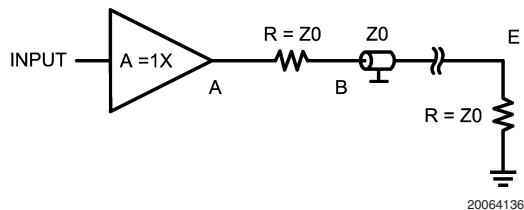
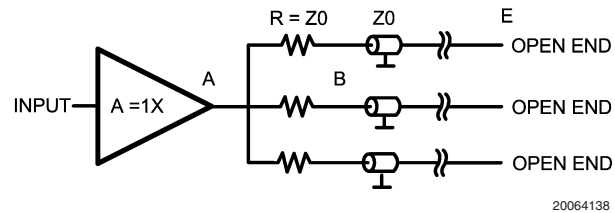
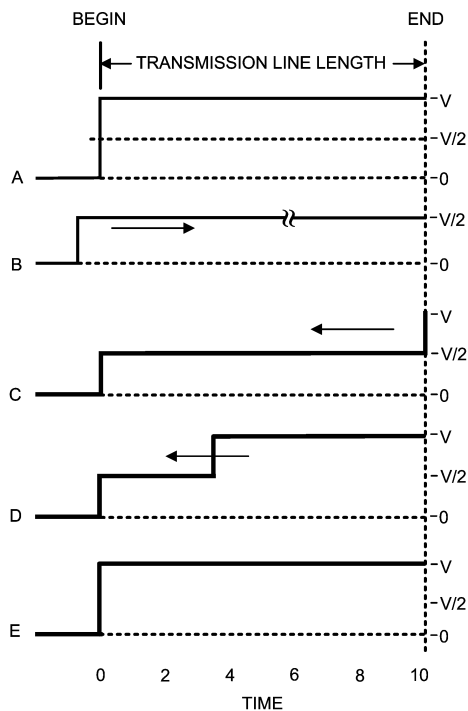

FIGURE 1.
FIGURE 3.
FIGURE 6.
- Use one buffer to drive one transmission line (see Figure 1)
- Use one buffer to drive several transmission lines each driving a different receiver. (see Figure 3)
In most cases, it is unrealistic to think that we can place a driver or buffer so close to the load that we don't need a transmission line to transport the signal. The pcb trace length between a driver and the load may affect operation depending upon the operating frequency. Sometimes it is possible to do measurements by connecting the DUT directly to the analyzer. As frequencies become higher the short lines from the DUT to the analyzer become long lines. When this happens there is a need to use transmission lines. The next point to examine is what happens when the load is connected to the transmission line. When driving a load, it is important to match the line and load impedance, otherwise reflections will occur and this phenomena will distort the signal. If a transient is applied at $T = 0$ (*Figure 6*, trace A) the resultant waveform may be observed at the start point of the transmission line. At this point (begin) on the transmission line the voltage increases to (V) and the wave front travels along the transmission line and arrives at the load at $T = 10$. At any point across along the line $I = V/Z_0$, where Z_0 is the impedance of the transmission line. For an applied transient of 2V with $Z_0 = 50\Omega$ the current from the buffer output stage is 40mA. Many vintage opamps cannot deliver this level of current because of an output current limitation of about 20mA or even less. At $T = 10$ the wave front arrives at the load. Since the load is perfectly matched to the transmission line all of the current traveling across the line will be absorbed and there will be no reflections. In this case source and load voltages are exactly the same. When the load and the transmission line have unequal values of impedance a different situation results. Remember there is another basic which says that energy cannot be lost. The power in the transmission line is $P = V^2/R$. In our example the total power is $2^2/50 = 80\text{mW}$. Assume a load of 75 Ω . In that case a power of 80mW arrives at the 75 Ω load and causes a voltage of the proper amplitude to maintain the incoming power.
Many applications, such as video, use a series resistance between the driver and the transmission line (see *Figure 1*). In this case the transmission line is terminated with the characteristic impedance at both ends of the line. See *Figure 6* trace B. The voltage traveling through the transmission line is half the voltage seen at the output of the buffer, because the series resistor in combination with Z_0 forms a two-to-one voltage divider. The result is a loss of 6dB. For video appli-
Another way to reach several points via a transmission line is to start several lines from one buffer output (see *Figure 3*). This is possible only if the output can deliver the needed current into the sum of all transmission lines. As can be seen in this figure there is a series termination used at the beginning of the transmission line and the end of the line has no termination. This means that only the signal at the endpoint is usable because at all other points the reflected signal will cause distortion over the line. Only at the endpoint will the measured signal be the same as at the startpoint. Referring to *Figure 6* trace C, the signal at the beginning of the line has a value of $V/2$ and at $T = 0$ this voltage starts traveling towards the end of the transmission line. Once at the endpoint the line has no termination and 100% reflection will occur. At $T = 10$ the reflection causes the signal to jump to $2V$ and to start traveling back along the line to the buffer (see *Figure 6* trace D). Once the wavefront reaches the series termination resistor, provided the termination value is Z_0 , the wavefront undergoes total absorption by the termination. This is only true if the output impedance of the buffer/driver is low in comparison to the characteristic impedance Z_0 . At
this moment the voltage in the whole transmission line has the nominal value of 2V (see *Figure 6* trace E). If the three transmission lines each have a different length the particular point in time at which the voltage at the series termination resistor jumps to 2V is different for each case. However, this transient is not transferred to the other lines because the output of the buffer is low and this transient is highly attenuated by the combination of the termination resistor and the output impedance of the buffer. A simple calculation illustrates the point. Assume that the output impedance is 5Ω. For the frequency of interest the attenuation is $V_B/V_A = 55/5 = 11$, where A and B are the points in *Figure 3*. In this case the voltage caused by the reflection is $2/11 = 0.18V$. This voltage is transferred to the remaining transmission lines in sequence and following the same rules as before this voltage is seen at the end points of those lines. The lower the output resistance the higher the decoupling between the different lines. Furthermore one can see that at the endpoint of these transmission lines there is a normal transient equal to the original transient at the beginning point. However at all other points of the transmission line there is a step voltage at different distances from the startpoint depending at what point this is measured (see trace D).